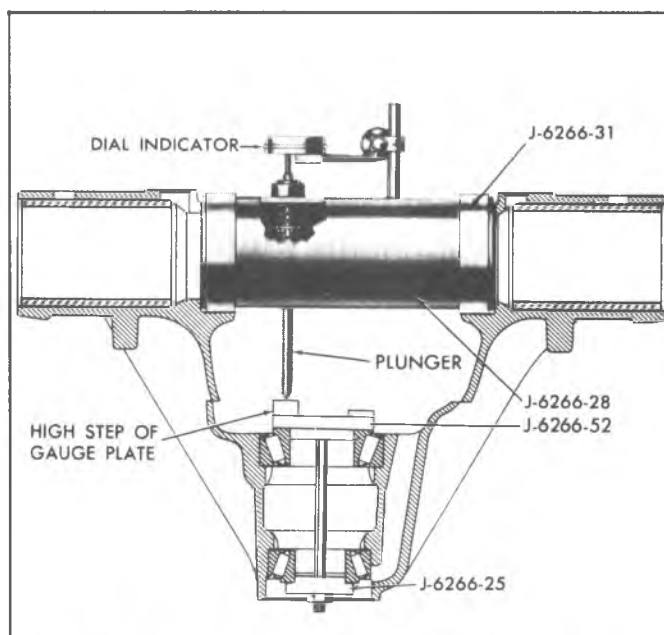

Fig. 0-3—Pinion Gauging Tools—8 7/8" Passenger
1. Set up the tools as shown in figure 0-3.